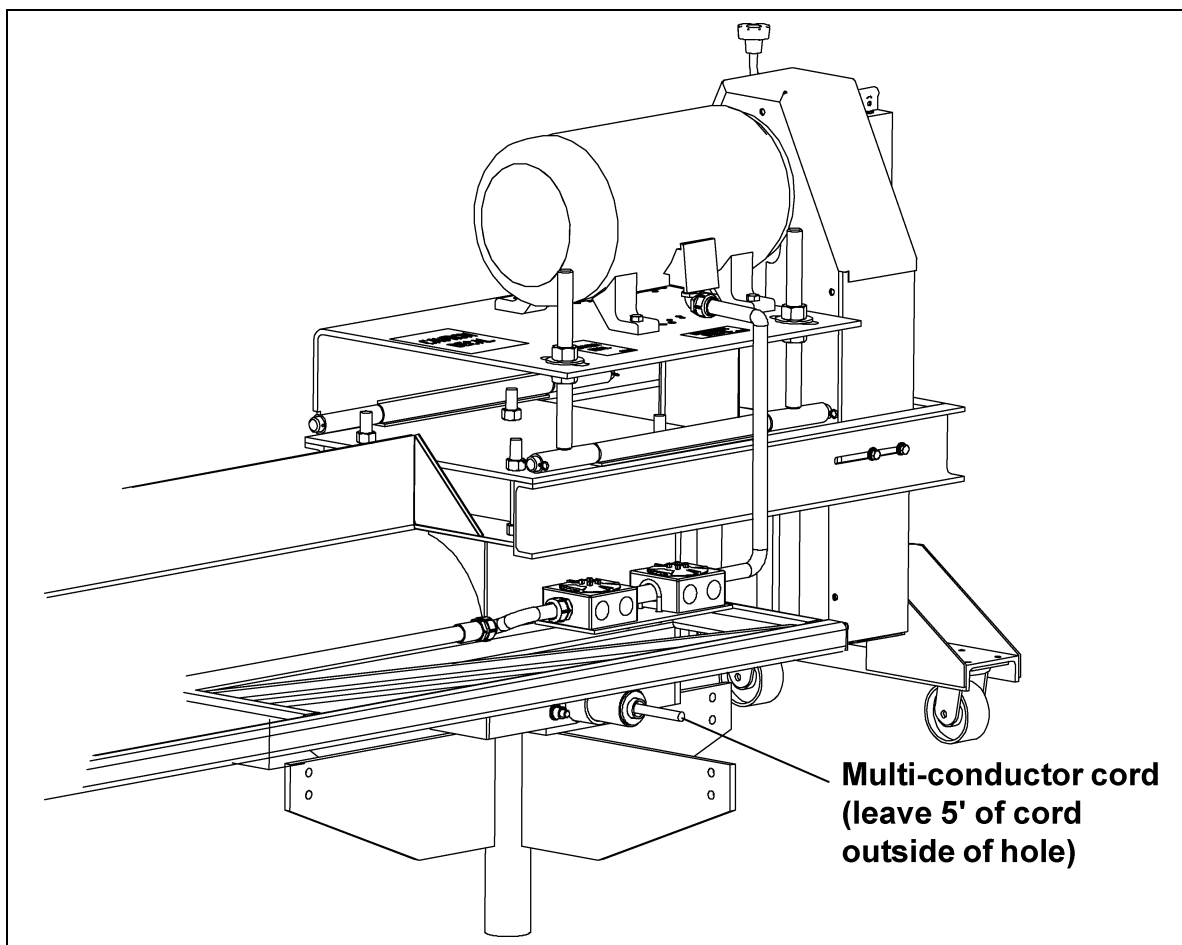

Figure 5AJ
2. Feed the multi-conductor cord through the hole in the back of the sweep head section leaving five feet (5') of cord outside the hole. (See Figure 5AJ.)
3. Feed the power cord through the pivot tube. (See Figure 5AK on Page 53.)
4. Align the hole in the backshield with the pivot tube and push the sweep onto the pivot tube. (See Figure 5AK on Page 53.)